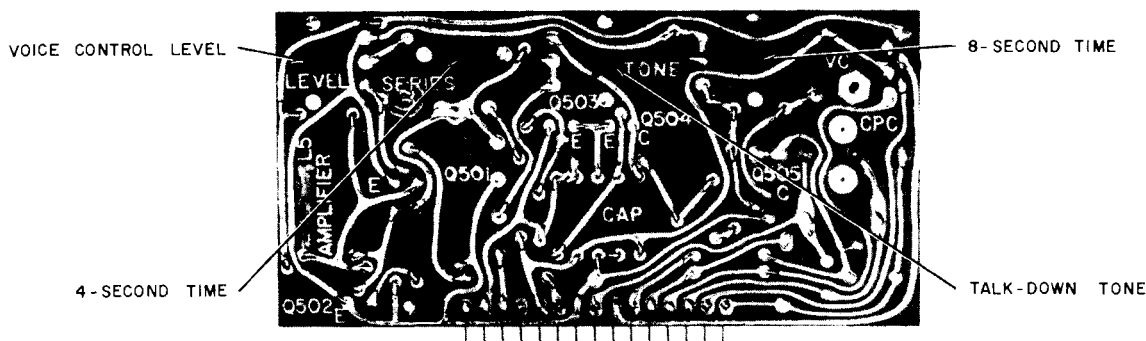

FIGURE 23 VOICE CONTROL ADJUSTMENTS
If the talk-down tone does not stop, increase the sensitivity of the Voice Control by rotating VOICE CONTROL LEVEL control (fig. 23) counterclockwise (as viewed from the conductor side of the circuit board).
talk-down tone. Adjust the 4-SECOND TIME control (fig. 23) for an interval of 4 seconds.
- e. Measure the time interval between the start of the talk-down tone and the loud "disconnect beep" tone. Adjust the 8-SECOND TIME control (fig. 23) for an interval of 8 seconds.
- d. The talk-down tone will be transmitted 4 seconds after the "B" Deck starts. Adjust TALK-DOWN TONE control (fig. 23) for a reading on the AC VTVM of 0.04 volts.